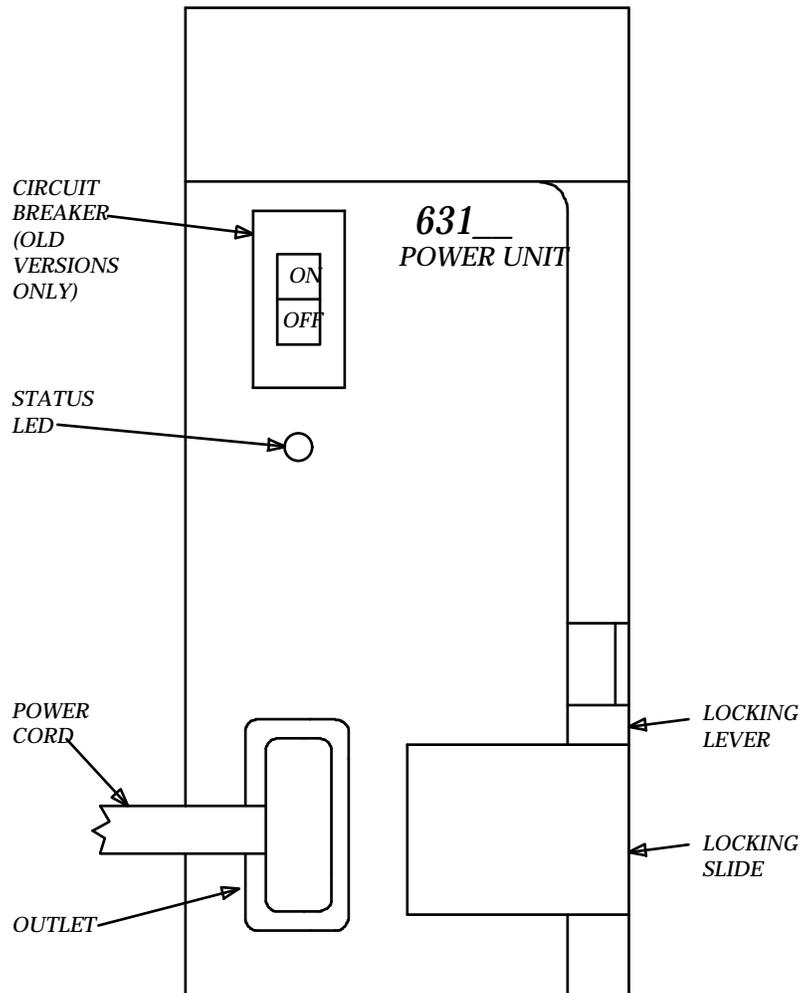

FIGURE 2-25. Typical 631-Type Power Unit
22. Connect the power cords to the power units. The power leads are the white cables equipped with plugs that are run through the slots in the front of each carrier (see Figure 2-25).